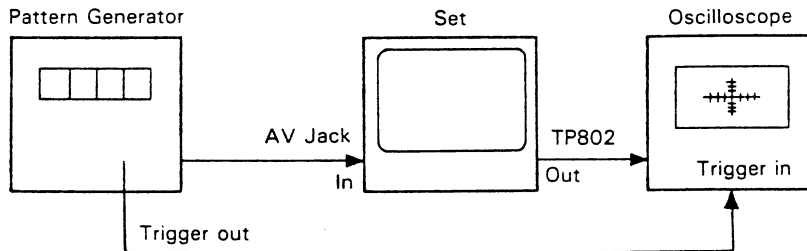

Fig. 27
- 2 Connect the equipment as shown in Fig.27